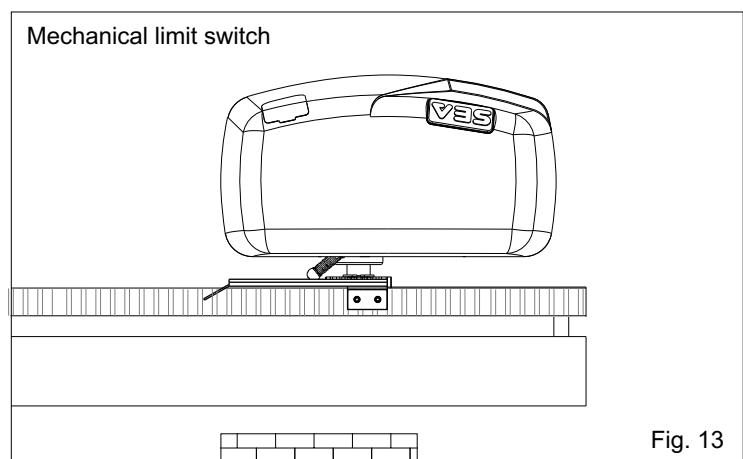

Fig. 13
- Place the plate on the rack in order to have the lever of the mechanical limit switch (Fig. 13) at the point X that is 50 mm from the bent side of the plate and fix it with the delivered screws (Fig. 14).